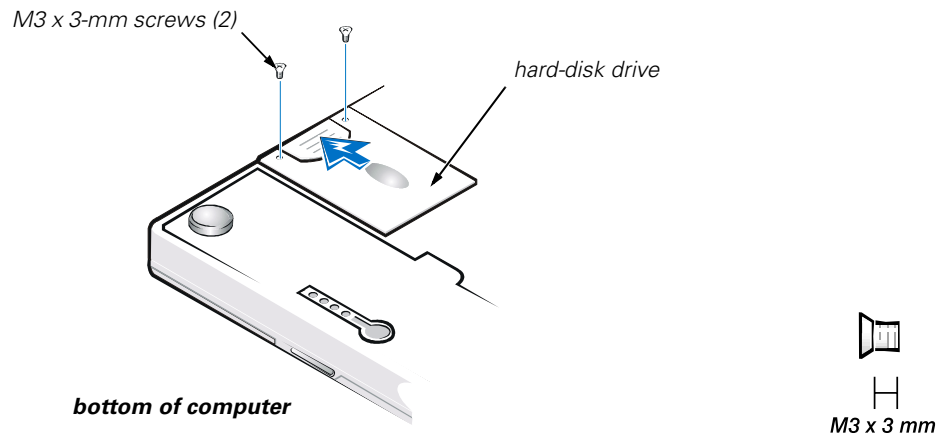

Figure 6. Hard-Disk Drive Assembly Removal
1. Turn the computer over, and remove the two M3 x 3-mm screws from the bottom of the hard-disk drive door (see Figure 6).